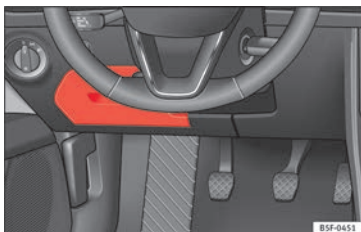

Fig. 100 On the driver-side dash panel: fuse box cover
- *Opening*: fold the cover down »» **Fig. 100**.